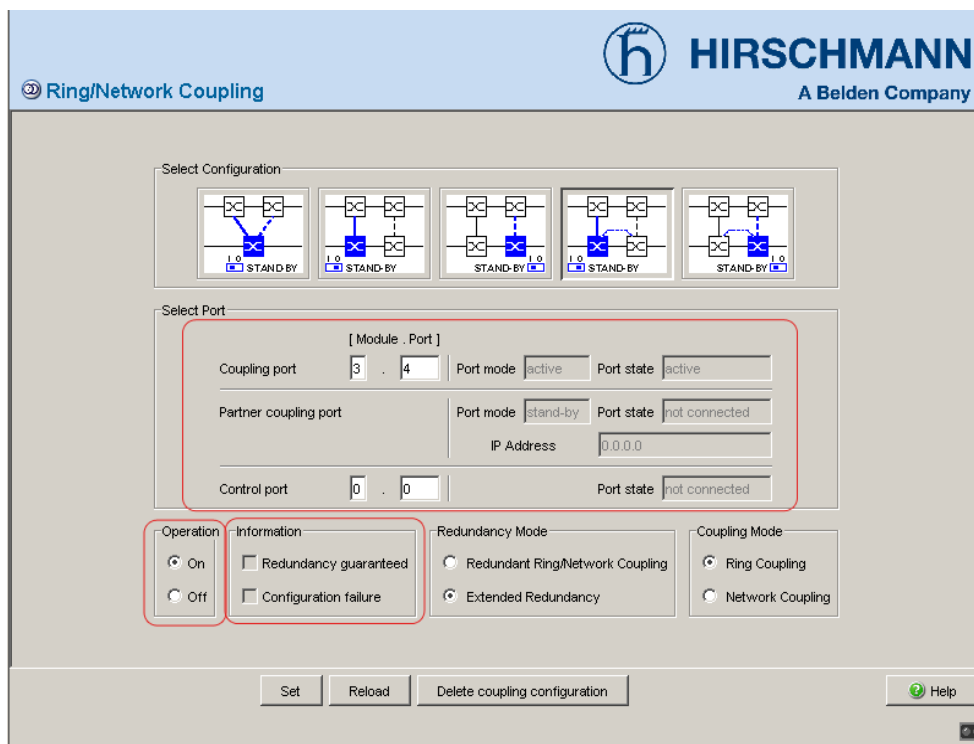

Figure 52: Selecting the port and enabling/disabling operation
- Select the coupling port (see fig. 52), (see table 17).
- Select the control port (see fig. 52), (see table 17).
- Activate the function in the “Operation” frame (see fig. 52).
The displays in the “Select port” frame mean (see fig. 52):
The displays in the “Information” frame mean (see fig. 52):